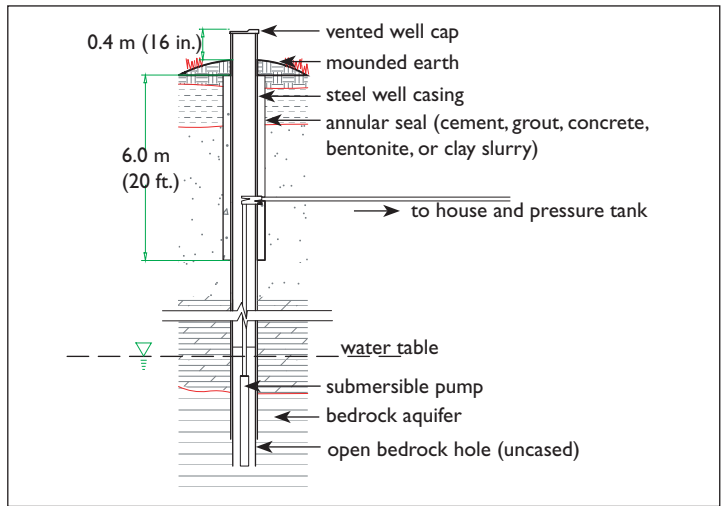

Figure 2 Drilled well
**Drilled wells** (10-20 cm/4-8 in. diameter) are commonly used to penetrate deeper aquifers (15 to greater than 60 m/50 to greater than 200 ft. deep), are more costly to construct, but generally provide a safer source of drinking water (see Figure 2).